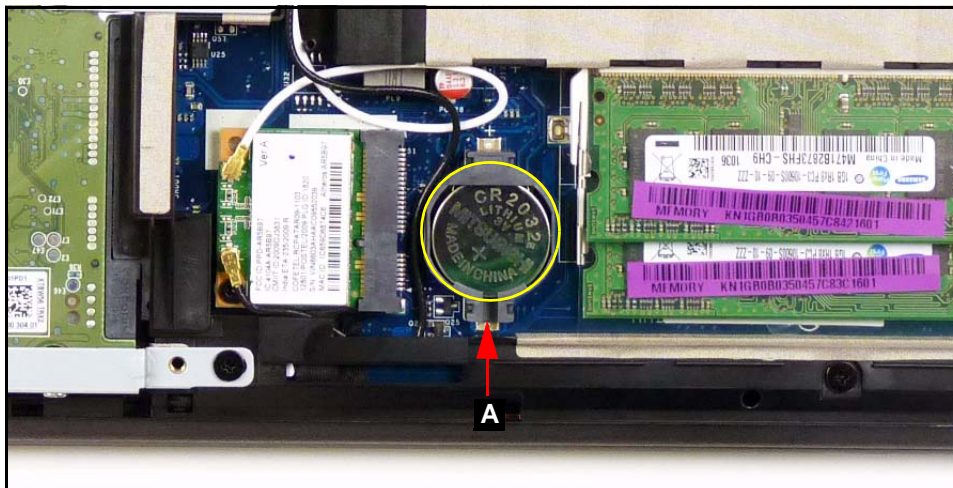

Figure 3-13. RTC Battery
2. Using plastic tweezers, push the RTC battery in using the gap in the mainboard connector (A) to release the battery. (Figure 3-13)
Follow local regulations for battery (Figure 3-13) disposal.
3. Remove RTC battery from mainboard connector. (Figure 3-13)
1. Put RTC battery (A) into the mainboard connector and press down to secure it. (Figure 3-13)